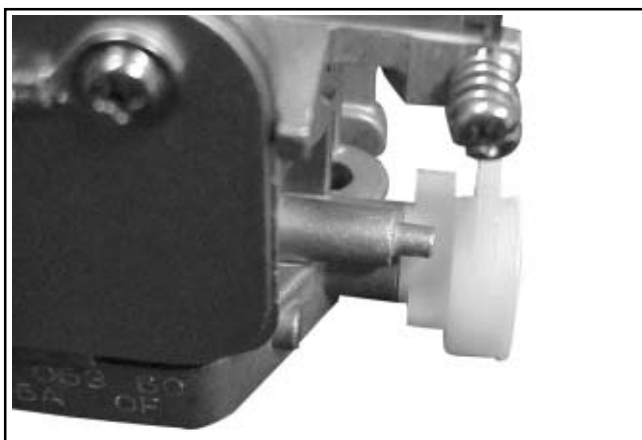

Figure 5-33. Assembling Choke Lever.
7. Insert the new bushing through the new choke lever from the outside, and start the bushing in the outer shaft bore. Position the choke lever so that the protruding boss on the carburetor housing is between the two stops formed in the choke lever. See Figure 5-33.